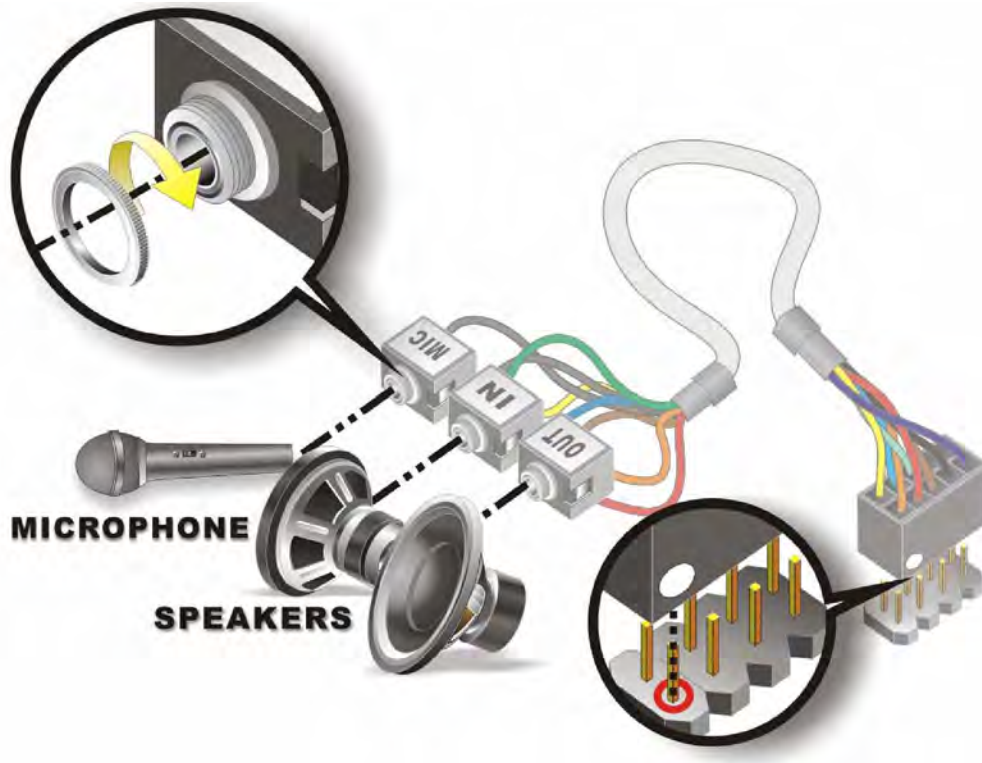

Figure 5-10: IDE Cable Connection
Step 2: **Align pin 1.** Align pin 1 on the onboard connector with pin 1 on the audio kit connector. Pin 1 on the audio kit connector is indicated with a white dot. See **Figure 5-10**.